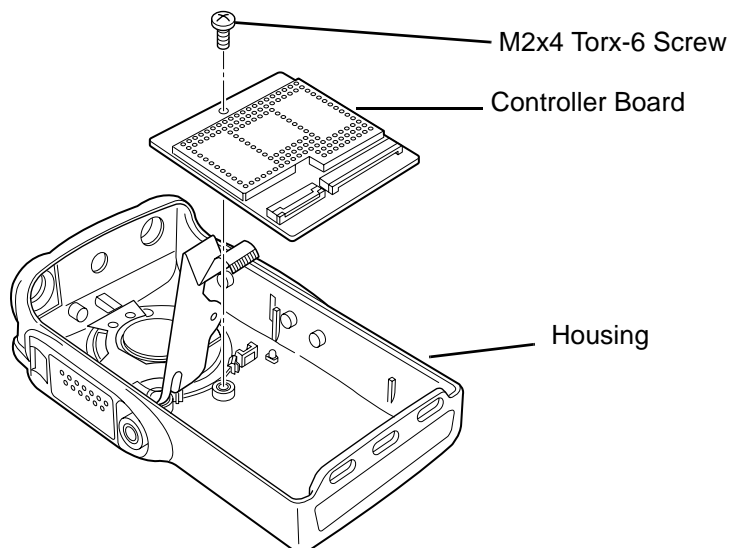

Figure 3-7 Removing the Controller Board from the Radio Body
2. Insert a flat blade screwdriver in between the controller board and front cover. Pull up the screwdriver to disassemble the controller board from front cover. (See Figure 3-7.).